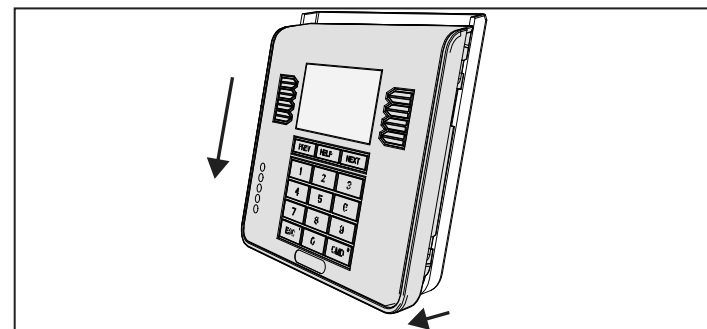

Figure 2.2: Removing the keypad from the base
2. Hold the keypad by the base in one hand. With the other hand, gently push down on the keypad to remove it from the base. Refer to *Figure 2.2*.